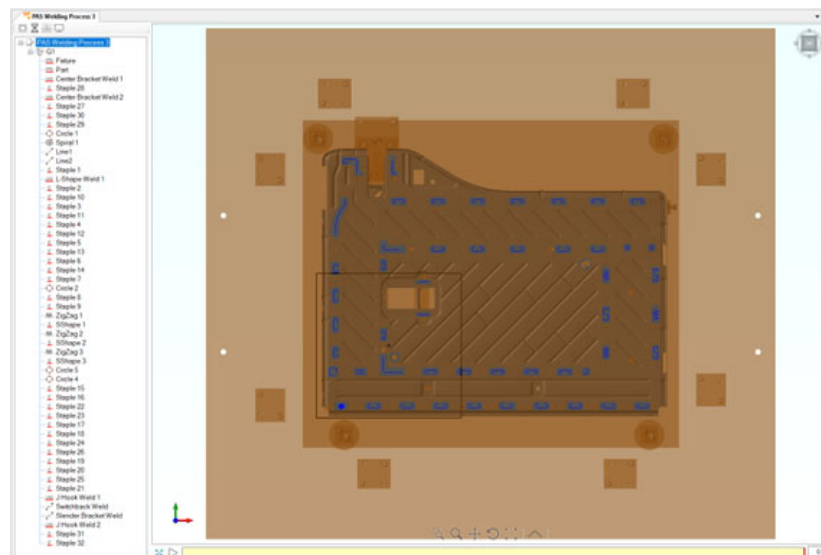

Figure 336: All Welds Placed Across the Part
- For this example, 52 welds were created and placed about the part. See Figure 336 (below).